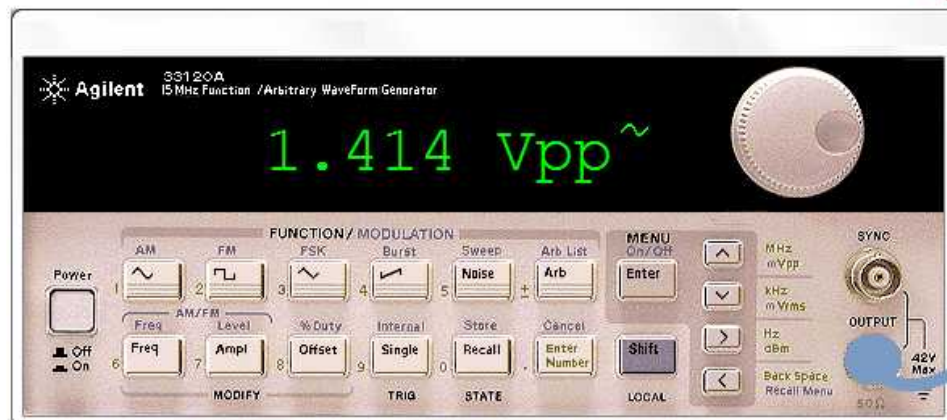

Figure 7-46: Inverting amplifier circuit connection
1. Connect the circuit as illustrated in figure 7-46.